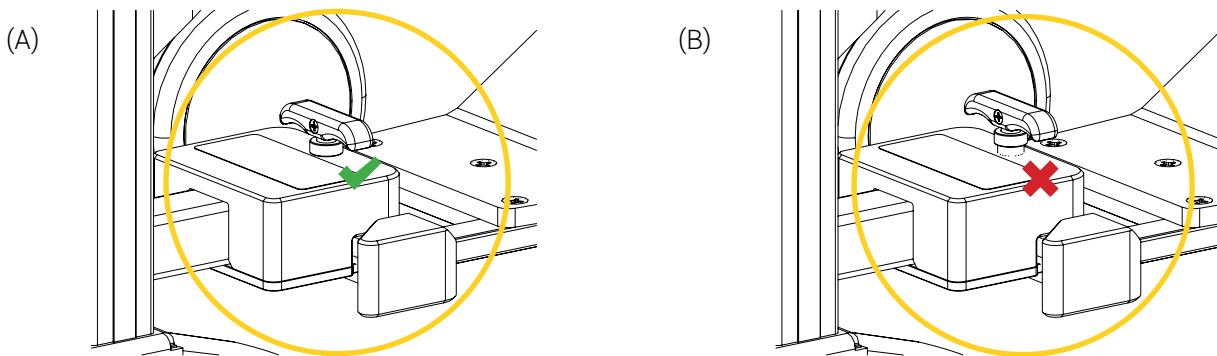

Figure 12 : THS Neonatal Cart attached on the Babyroo TN300 incubator
7. Ensure that coupling between the fold-up hitch of the transport cart and the THS coupling device under the Babyroo TN300 incubator is properly secured (Figure 12).